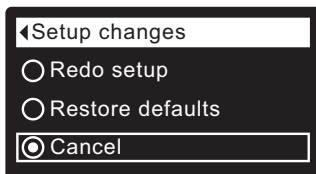

FIG. 85
1. From any of the rolling status screens, press the SELECT (O) button to display the **Main menu**.
3. Press the SELECT (O) button to display the Advanced settings menu.
5. Press the SELECT (O) button to display the Troubleshooting menu.
7. Press the SELECT (O) button to display the Setup changes menu (See Figure 85).
8. Press the RIGHT (▶) button. The flashing padlock icon will disappear, as shown in Figure 85.
9. Press the SELECT (O) button.